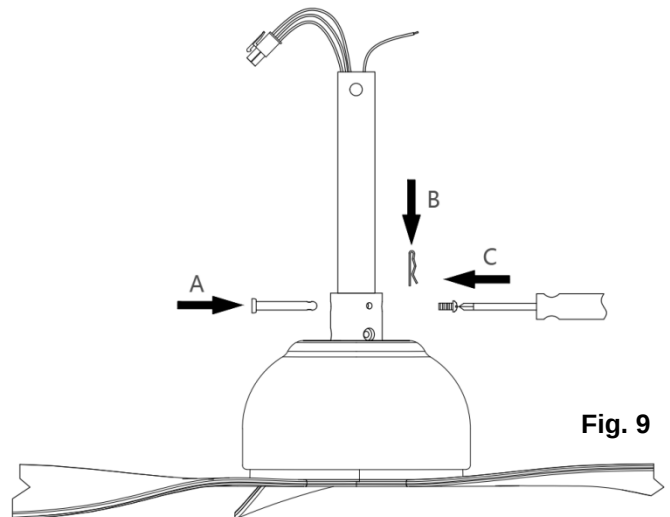

Fig. 9
NOTE: Do not discard but keep these parts, they are required to reassemble later. (Fig. 9,10,11,)
7. Assemble the down rod into the down rod coupling housing, by inserting and line up the down rod coupling housing holes with the down rod holes and insert the hitch pin and secure with the lock clip. (Fig. 9 - A B)
8. Secure the down rod by tightening the set screws. (Fig. 9 - C)